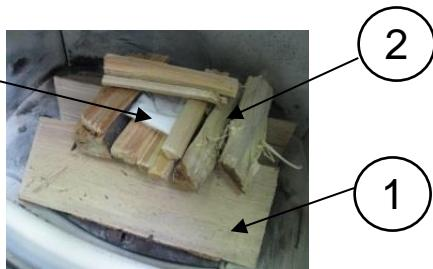

Figure 3:ignite the fire
Place 2-3 logs (approx. 1,8 kg in total) crossways in the combustion chamber (1) with sufficient distance from each other (min. 2 cm), on top of that place some softwood chippings (0,9 kg) (2) and some ignition aid and light (3). (see fig. 3)